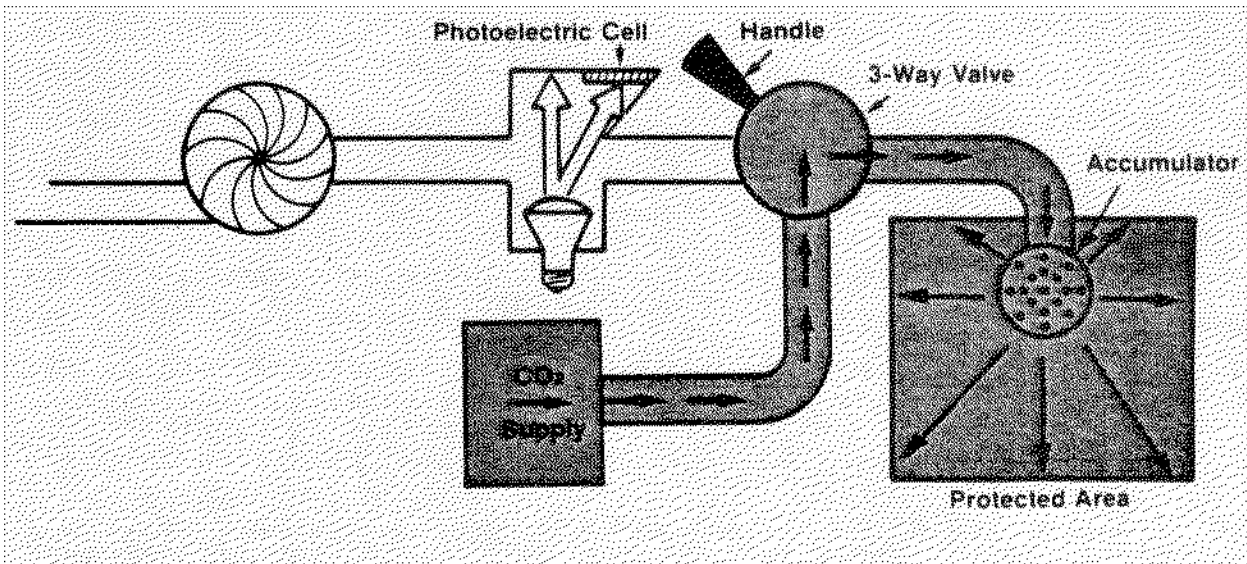

Figure 2-4. Carbon Dioxide Discharged Into Affected Space By Operation of 3-Way Valve.
- 2.5 The 3-way valves permit carbon dioxide to be discharged into the selected space without penetrating the smoke detection system (Figure 2-4).